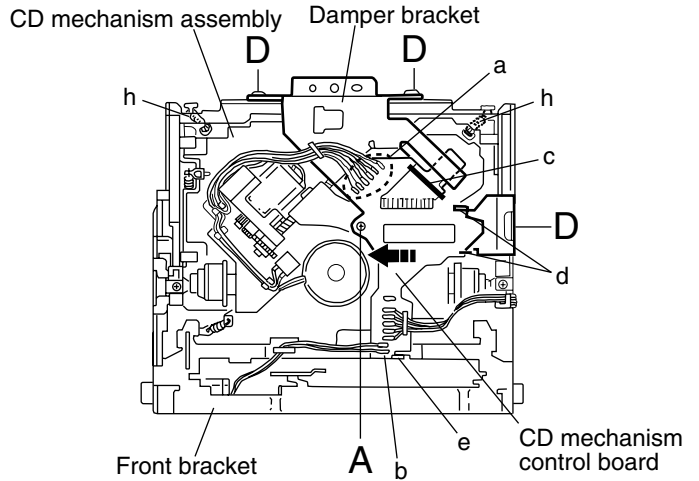

Fig.1
**■ Removing the CD mechanism control board (See Fig.1 and 2)**